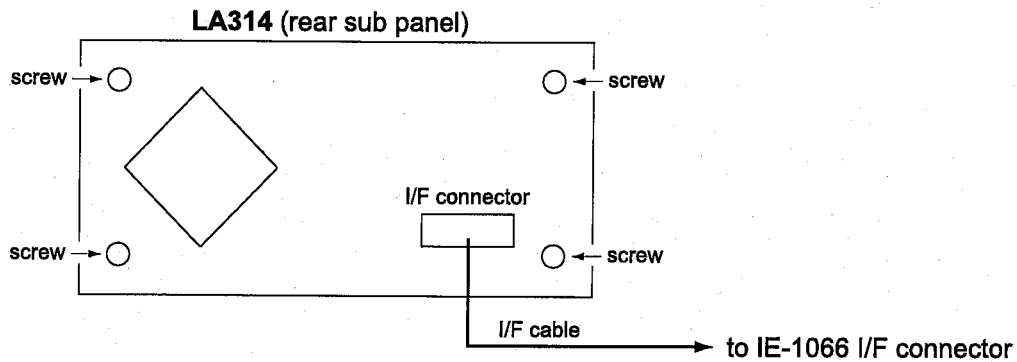
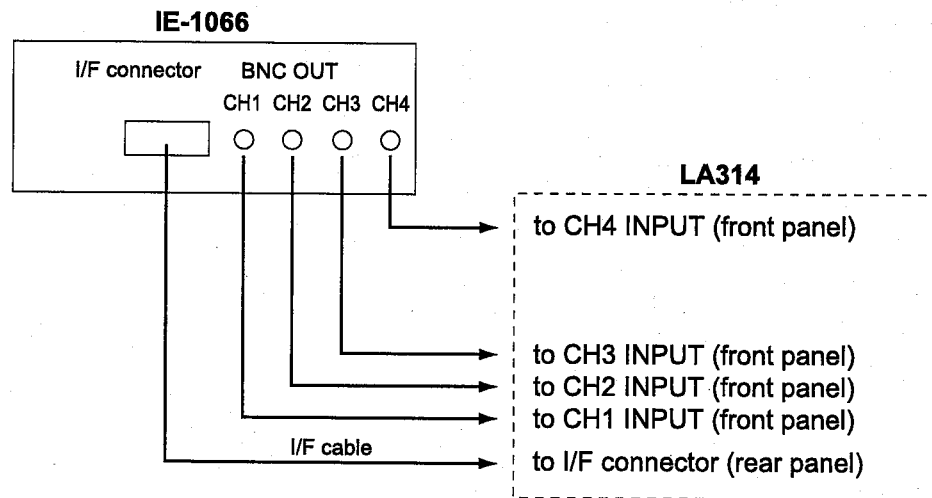
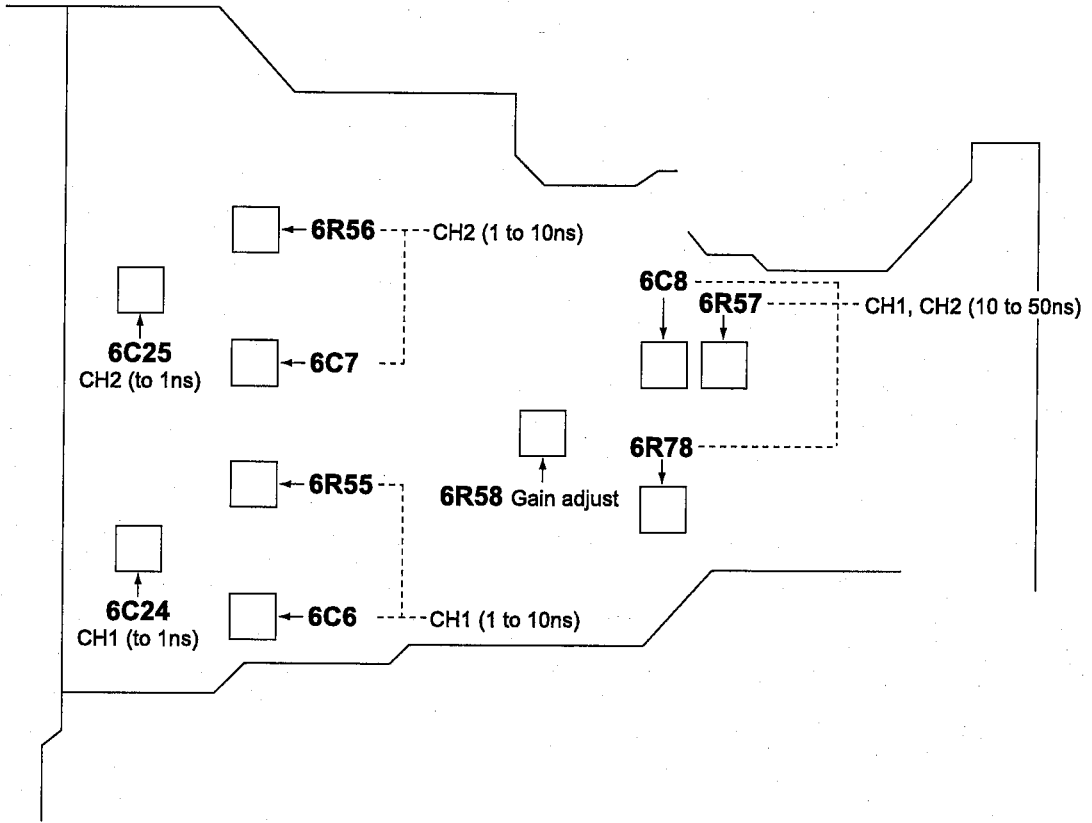

Figure 2.1 Rear sub Panel of LA314
Figure 2.2 Connection IE-1066 to LA314
Figure 2.9 ANA MAIN BOARD IV (CHANNEL SW & DL DRIVER)
- ① Connect between the IE-1600 I/F connector and LA314 I/F connector with the exclusive I/F cable (See Figure 2.1 and Figure 2.2).
- ② Connect between the IE-1066 OUTPUT connectors and the LA314 INPUT connector with the BNC coaxial cables (See Figure 2.2).
See Figure 2.1 to Figure 2.9.
- Figure 2.9 ANA MAIN BOARD IV (CHANNEL SW & DL DRIVER) : See page 2-23